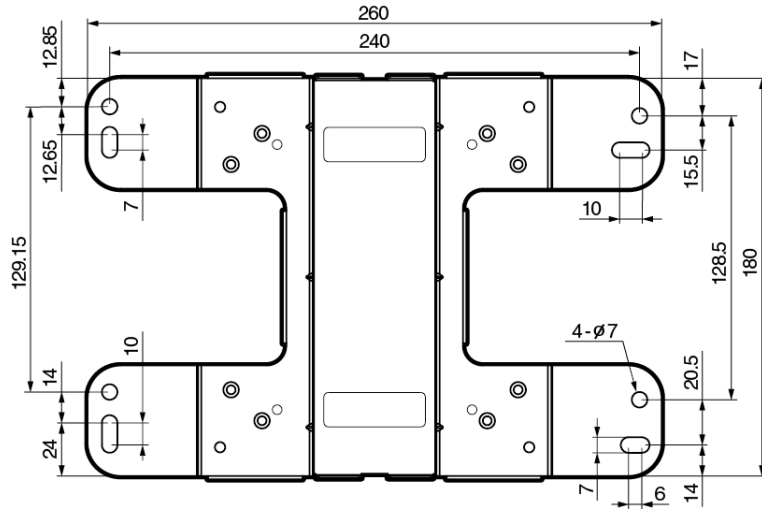

Figure 9. Base Plate Hole Dimensions
- Using the mounting base as a template, mark four holes with a pencil. See Figure 9 on page 31 for hole dimensions.
1. Using the mounting base as a template, mark four holes with a pencil. See Figure 9 on page 31 for hole dimensions.